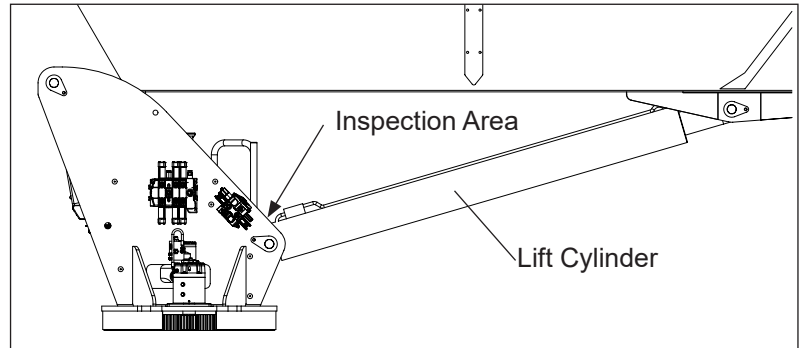

Figure 1 — Inspection Location
2. The inspection area is at the base of the boom lift cylinder (refer to Figure 1).